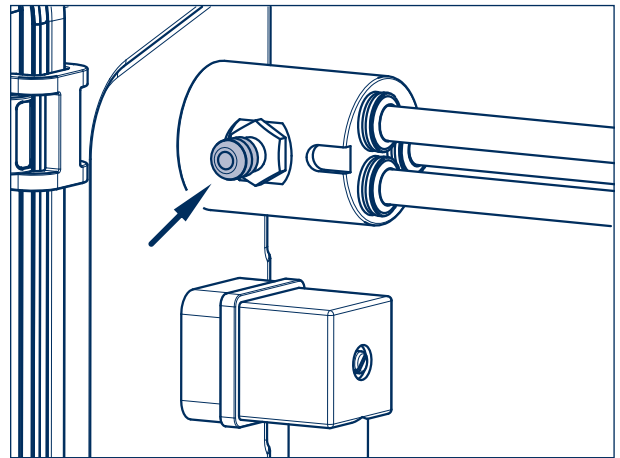

Figure 47
- [1] Remove cap on the pressure connection (arrow, Figure 47).